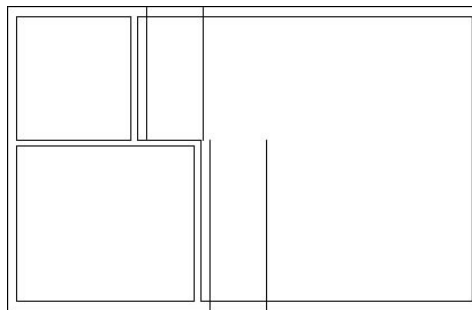

FIGURE 4.22: The lines after being extended through the external walls
5. Click the four lines to extend them. The lines are extended through the external walls to make the jambs (see Figure 4.22). End the Extend command by pressing the spacebar or ↵.